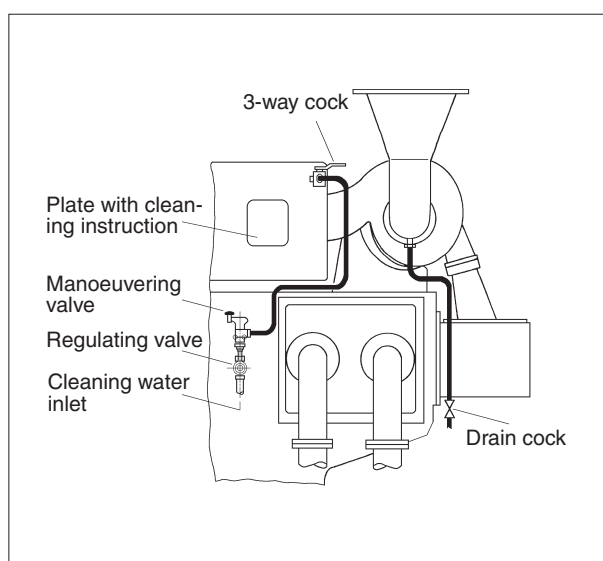

Fig. 1. Arrangement for water washing.
- 2) Open the drain cock at the turbocharger outlet and check for free passage, see fig. 1.
- 5) Activate the manoeuvring valve, see fig. 1.